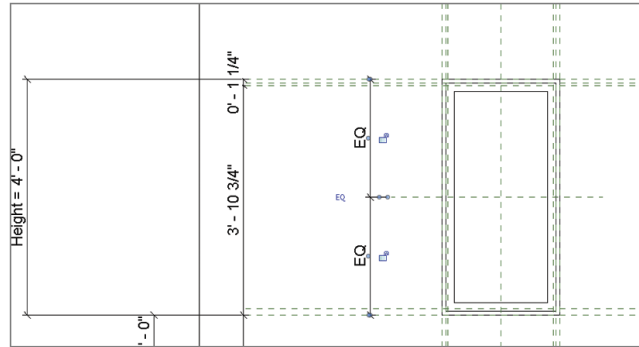

FIGURE 6.22 Adding a new reference plane and keeping it equally spaced
6. Go to the Modify | Place Reference Plane tab's Measure panel, and click the Aligned Dimension tool. Create a continuous dimension between the two outermost horizontal reference planes and the new plane you created in step 4. Click the temporary EQ icon that is active when you select the dimension just created to establish an equality constraint (Figure 6.22).